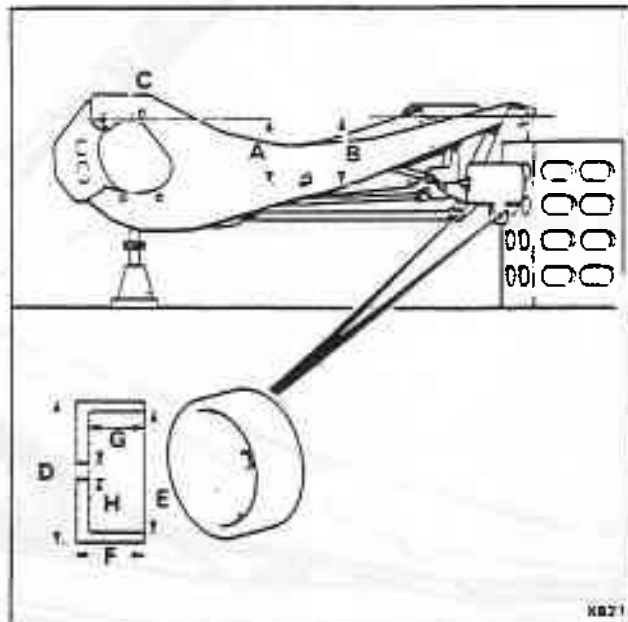

Fig. H10-2 Camber and toe-in setting
1. Mount the rear crossmember and trailing arms on a surface table as shown in figures H10-2 and H10-3.
using small screw jacks situated beneath the trailing arms (see fig. H10-2).
mounted on a surface table as shown in figures H10-2 and H10-4 proceed as follows.